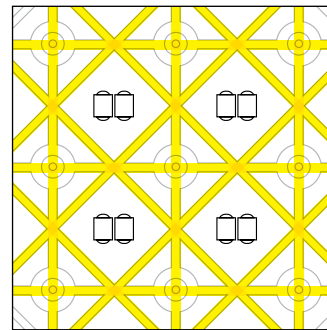

Figure 1
- Cut within the double cutline path (figure 1).